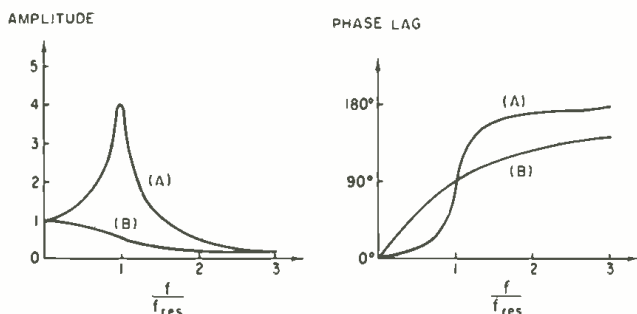

Figure 1. Frequency and phase response of (A) diaphragm with little damping, (B) diaphragm with large amount of damping.
FIGURE 1 compares a microphone's direct and random-
Figure 1. Direct and random-incidence response of a microphone. (A) zero-degree incidence response, (B) random-incidence response, (C) actual room curve due to absorption of high frequencies, (D) total sound as picked up by a distant microphone.
The rising frequency response at lower frequencies is straightened out by locating diaphragm resonance at a medium-to-low frequency, typically at 1,000 to 2,000 Hz, and then flatten out this resonance peak by introducing a large amount of damping. Generally, a resonance peak will change the phase 180 degrees (lag). FIGURE 1 shows the principle of damping of a resonance peak and the corresponding phase curve. Note that the change in phase starts far below and ends far above the resonance frequency. At resonance the phase shift is 90 degrees.